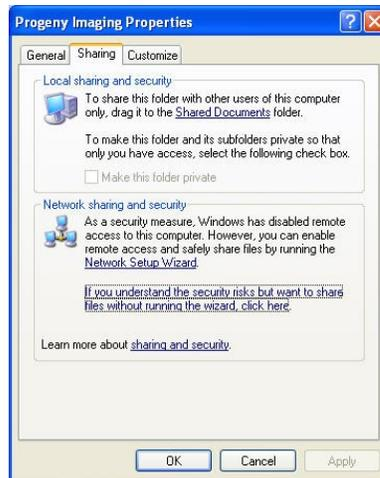

Figure 74
4. In the Progeny Imaging Properties box, select the Sharing tab (see Figure 74 on page 47).